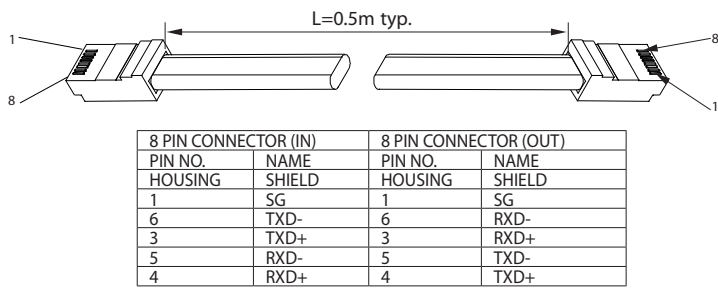

Fig.7-8: Serial link cable with RJ-45 shielded connectors (P/N: Z/RJ45)
3. Using the Linking cable supplied with each unit (Refer to Fig.7-8), connect each unit OUT connector to the next unit IN connector.